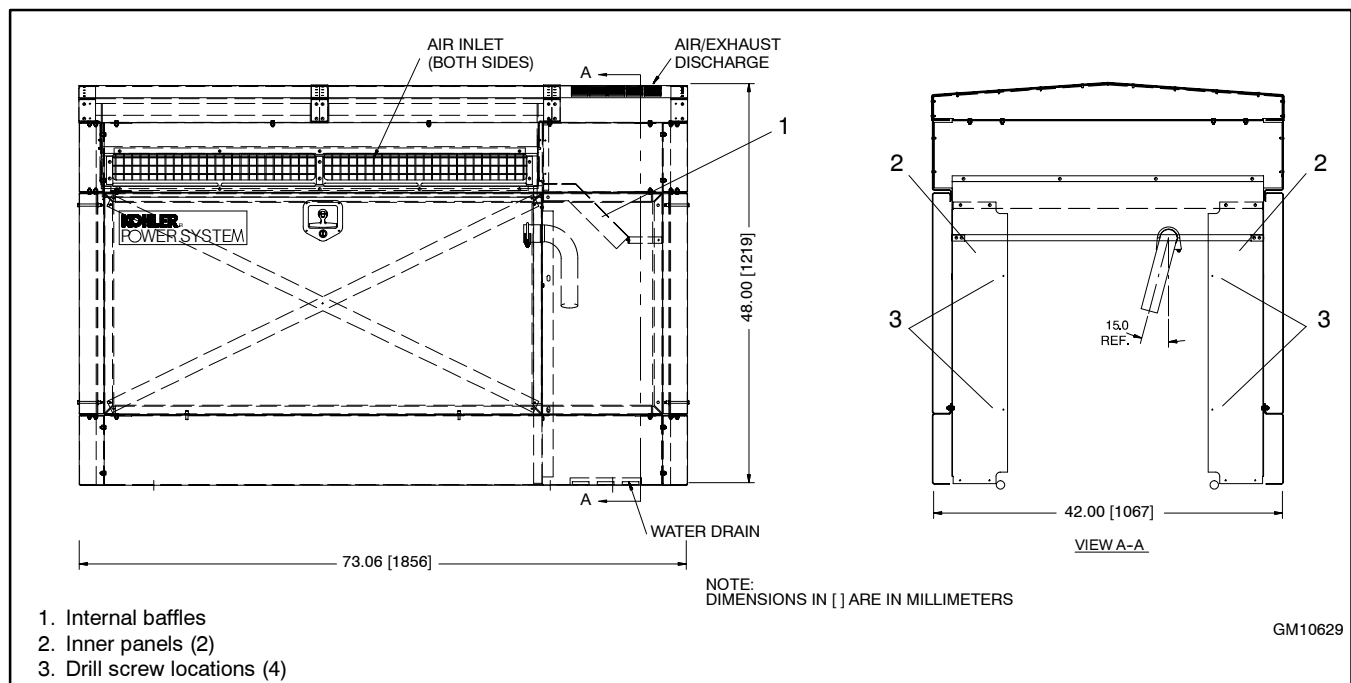

Figure 3 Sound Shield Enclosure, End Door Removed
- 3.3 Remove the hardware attaching the sound shield enclosure to the shipping pallet. If the enclosure was shipped with the generator set, confirm that there are no screws attaching the enclosure to the generator set radiator shroud. See Figure 3.
- 4.4 Lower the enclosure carefully over the generator set. Guide the enclosure to position the internal baffles and inner panels in front of the generator set radiator shroud. See Figure 3. Watch the corners for adequate clearance and align the enclosure mounting holes with the anchors in the mounting pad. Remove the hoist equipment.
- 4.6 Drive four drill screws (X-794-1) through the predrilled holes in the inner panels to attach them to the radiator shroud. See Figure 3 for the screw locations.
- 5.2 Direct the elbow down and angled 15° toward the center as shown in Figure 3 and tighten the clamp.